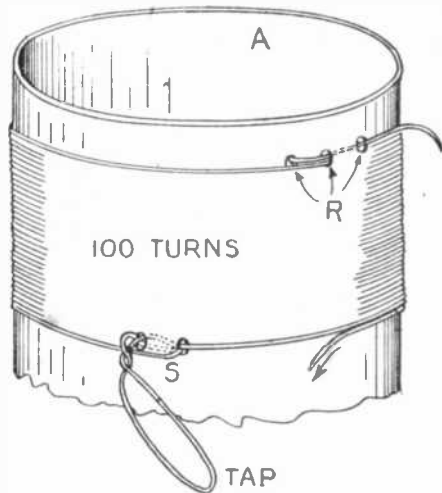

FIG. 3
Fig. 3 shows a detail of the top of the loading coil and Fig. 4 shows it completely assembled. Starting ½ inch from the open end of the cardboard form (A), anchor the wire by weaving it through some small holes punched in the cardboard as shown at (R). Now wind on 100 turns of wire, punch two small holes in the tube, and push a loop of wire in one hole and out the other as shown at (S). Then wind on 100 more turns and bring out another loop. Wind the rest of the coil in this manner but bring out a tap at each ten turns. The coil taps progress around the winding form, affording convenient connections to the switch points. Make these taps just long enough to reach the required distance.